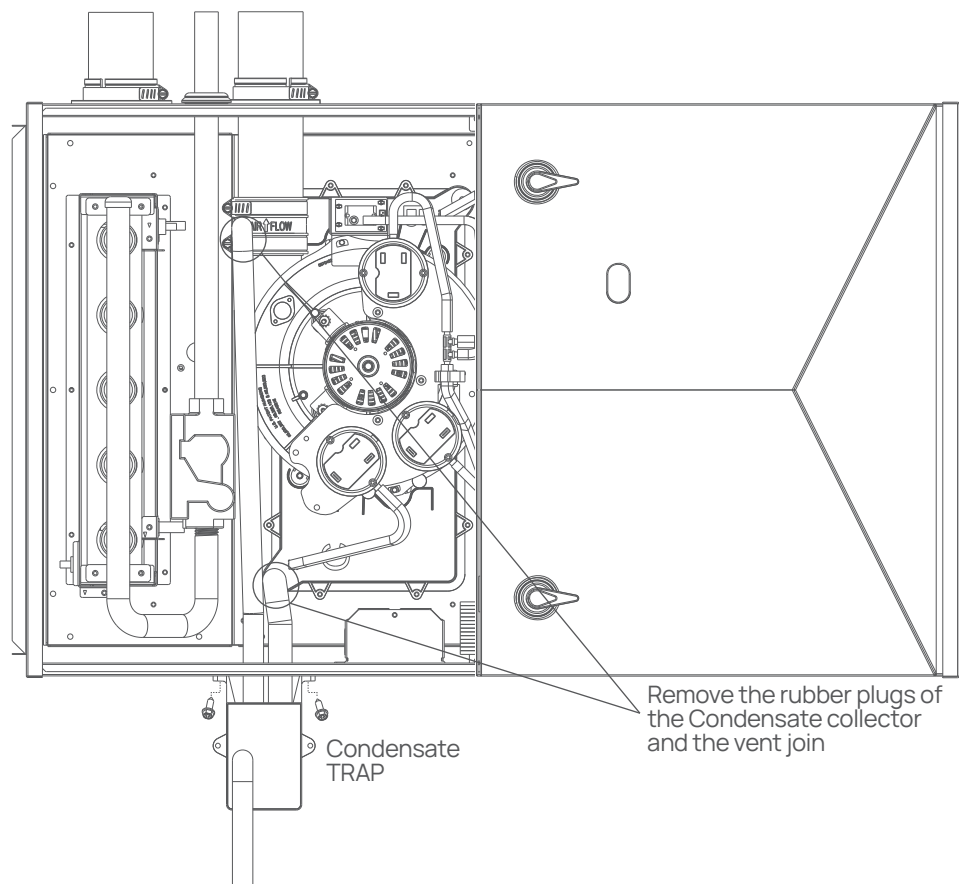

Fig. 38 Horizontal Left Side Installation, Vent Through Side Panel
In Horizontal left side installing, the drainage line is discharged from the left side, and the condensate TRAP needs to be installed on the left side panel, as shown in Fig.38;
- ② Remove the rubber plugs on rubber plugs of the Condensate collector and the vent joint; see Fig.38
- ③ Cut out drainage pipes of appropriate length (with 2 diameters, connecting the drainage outlet of the collection box and the drainage outlet of the inducer joint), pass them through the drainage holes on the side panel, connect them to the corresponding inlet of the Condensate TRAP, and tighten them with the clamps provided by the factory accessories.
- ④ Align the two inlets of the Condensate TRAP with the drainage outlet of the side panel, and fix them on the side panel with the two self supplied screws provided by the factory accessories; See Figure 38
- ⑤ Connect the other end of the drainage pipes to the drainage outlet of the water collection box and the drainage outlet of the vent pipe, which have already removed the rubber plug, and clamp the hose head with a clamp provided by the factory accessory;